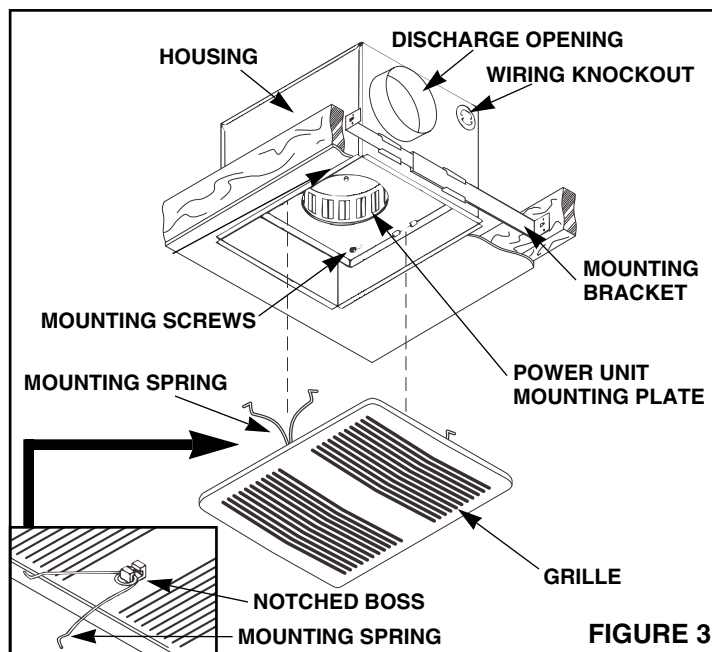

FIGURE 3
- Refer to Figure 3.** Insert mounting brackets at each end of housing.
4. **Refer to Figure 3.** Securely tighten screws.
1. **Refer to Figure 3.** Snap grille mounting springs' center loop into notched bosses on the back of grille.